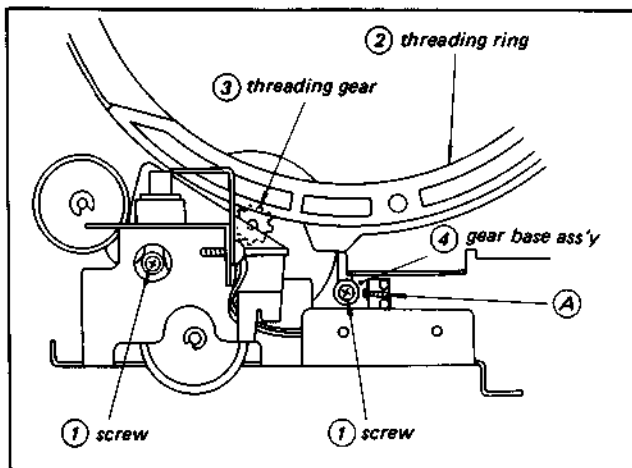
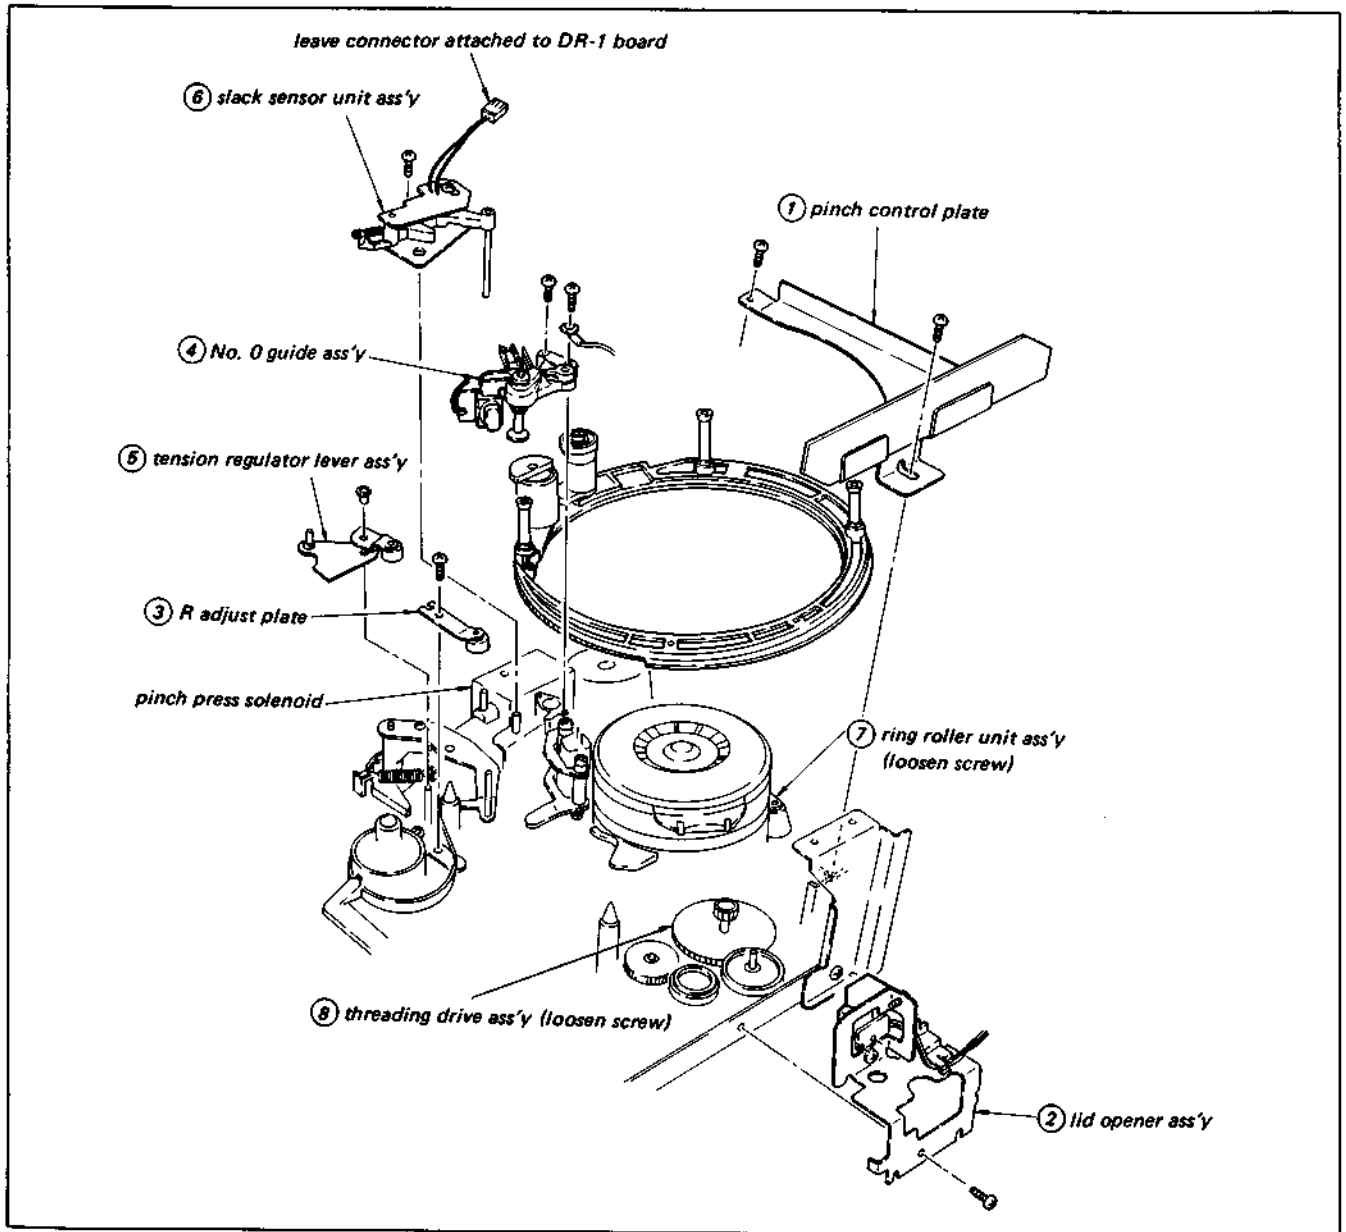

Fig. 3-15. Threading/unthreading adjustment
Fig. 3-21. Replacement and adjustment of threading ring ass'y
- 2) Loosen the two screws ①, shown in Fig. 3-15,  $90^\circ \sim 180^\circ$ , insert a blade-tip screwdriver into section A, and adjust the gear base assembly ④ so that there is about 0.4 mm of play between threading ring ② and threading gear ③, then tighten screws ①.
- 2) As shown in Fig. 3-21, remove the pinch control plate ①, lid opener assembly ②, R adjust plate ③, No. 0 guide assembly ④, tension regulator lever assembly ⑤, and slack sensor unit assembly ⑥.
- 4) Loosen screw ① shown in 3-8-1, Fig. 3-15, and move the threading drive assembly ⑧, shown in Fig. 3-21, fully away from the threading ring.